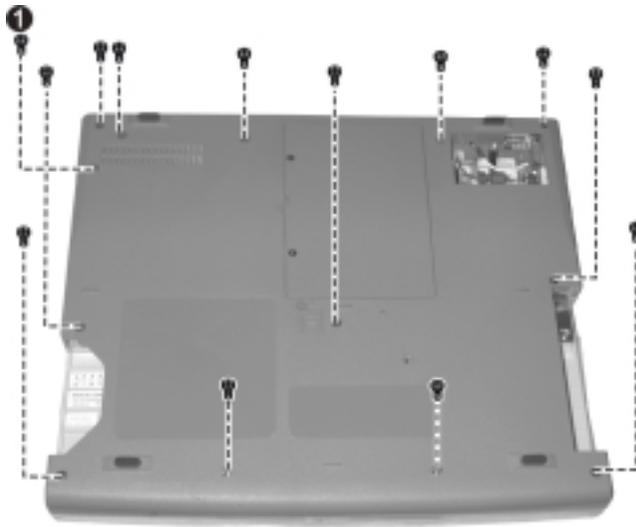

Figure 5-11
5. Remove one screw locking the CD-ROM (❶), and then the other twelve screws locking the base unit frame. (figure 5-11) Now you can lift the base unit frame up.